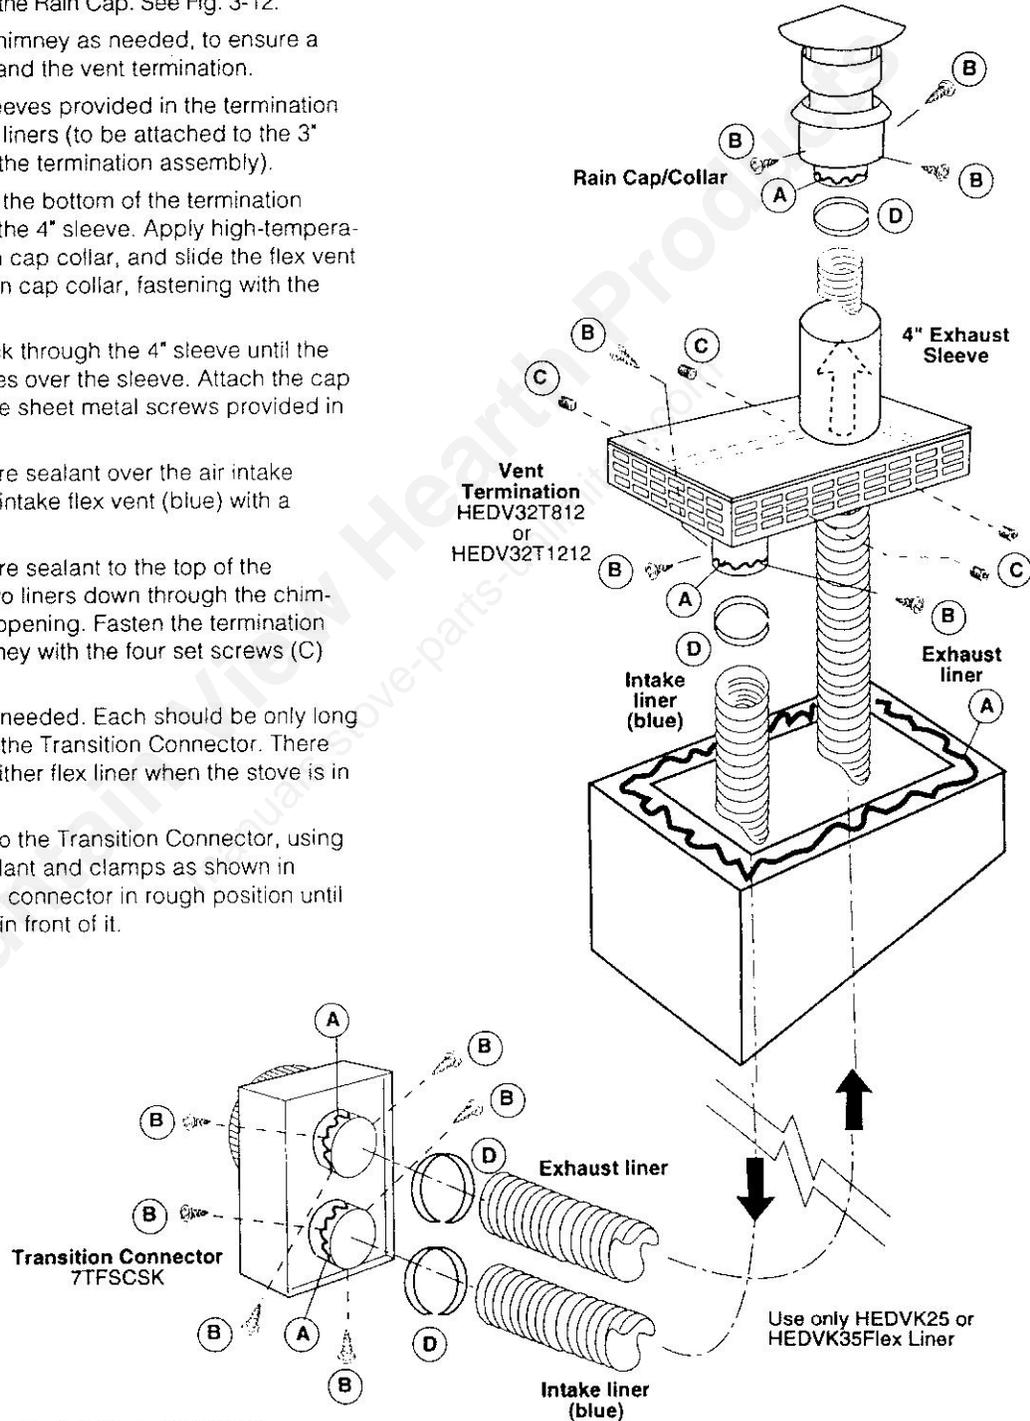

Figure 3-12. Fireplace Vent System Installation.
6. Apply high-temperature sealant to the top of the chimney. Feed the two liners down through the chimney flue and damper opening. Fasten the termination assembly to the chimney with the four set screws (C) provided.
8. Attach the flex liners to the Transition Connector, using high-temperature sealant and clamps as shown in Figure 3-12. Prop the connector in rough position until the heater is in place in front of it.